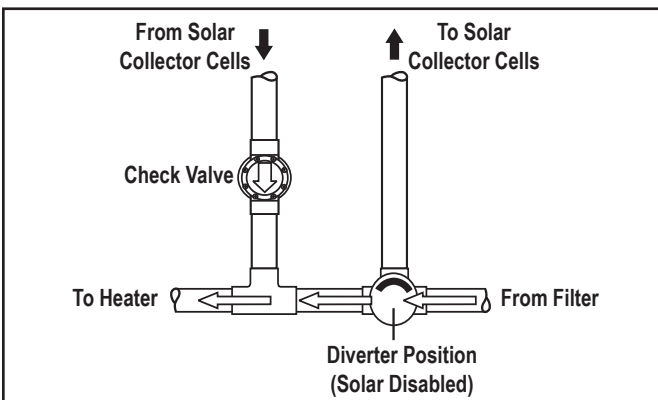

Figure 4. Diverter Valve Position (Solar Disabled)
3. Install the solar controller (not shown) per the manufacturer's instructions and connect to the Jandy valve actuator on the Jandy 3-port diverter valve. The Jandy valve actuator must be adjusted to provide the diverter positions shown in Figures 4 and 5 in conjunction with the solar controller.